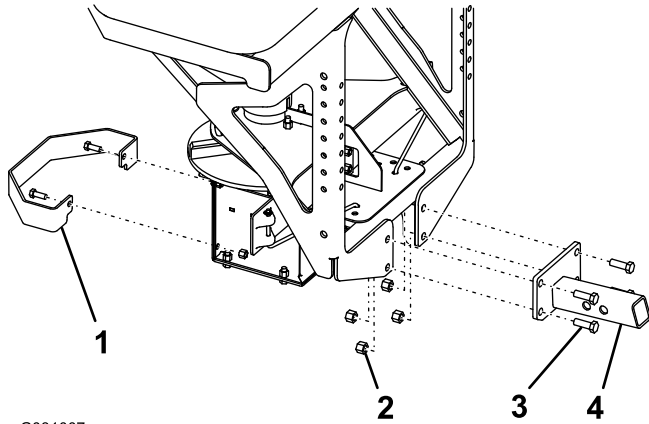

Figure 4
1. Mount the slide-in attachment to the spreader using 4 bolts (1/2 inch) and locknuts (1/2 inch) and torque the bolts to 76 Nm (56 ft-lb) (Figure 4).
2. Mount the spinner guard to the spreader using the 2 existing bolts (3/8 inch) and locknuts (3/8 inch) and torque the bolts to 27 Nm (19.7 ft-lb) (Figure 4).